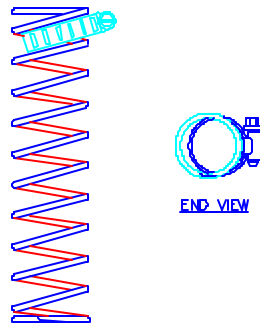

Figure 8.
8. Loosely place hose clamp (retained from step above) into the first closed loop of the spring after first opening clamp to maximum diameter, see Figure 8.